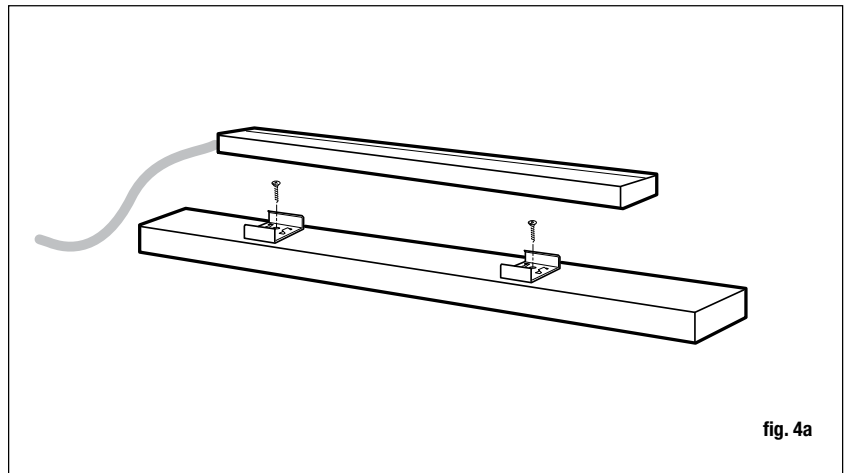

fig. 4a
2. Install each bracket to the underside of the bottom rail using the screws provided. Center holes in the bracket should be 18" apart. Snap strip light into each bracket (Brackets pivot on center screw to line up with the lights) (fig. 4a).